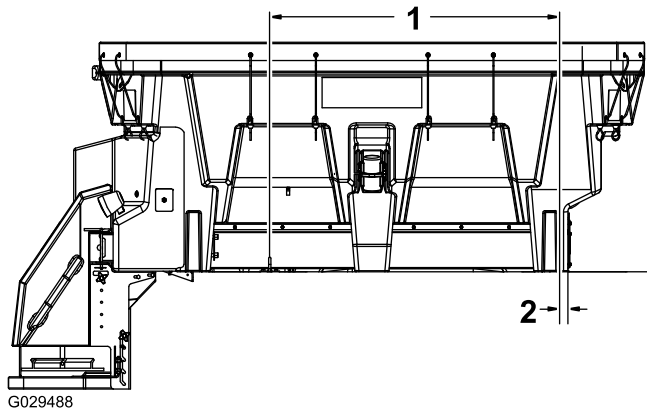

Figure 7
- Using a 7/16-inch drill bit, mark and drill the holes for the D-rings as shown in Figure 7.